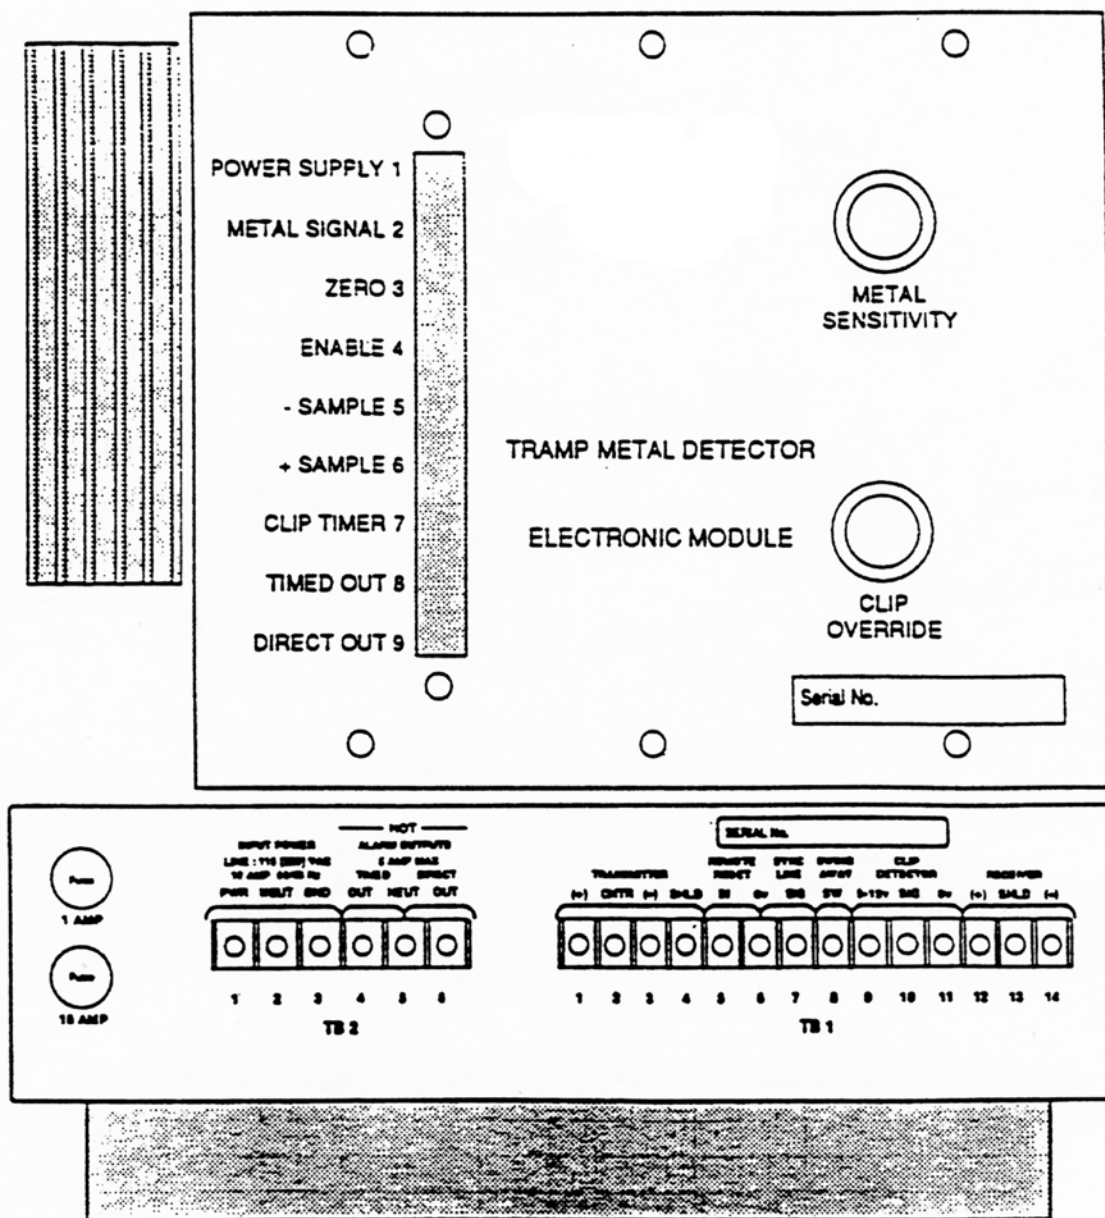

Figure 2
All the electronics and controls for the Detector are contained in two modules, the Interface Module and the Electronic Module shown in Figure 2. The Electronic Module houses the electronic circuitry and components associated with metal signal processing and analysis. Visible on the front panel of the Electronic Module are the metal sensitivity control knob, clip override control knob and L.E.D. status indicators used to monitor the status of the Detector's self-test circuits. By removing the front panel of the module, all of the electronics are exposed for calibration and troubleshooting. All connections for the Electronic Module are made
- Approximately 5 seconds after power "ON", the No. 1 status indicator (power supply) located on the front panel of the Electronic Module will light (reference Figure 2). This indicates that the power supply is fully operational and all the electronics are enabled.